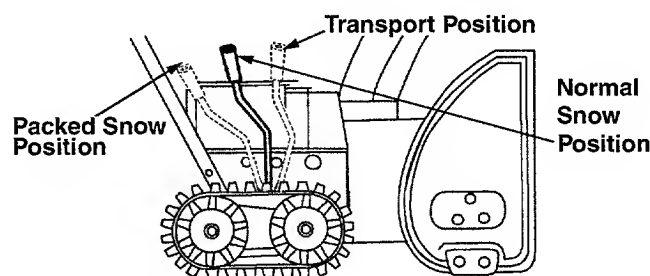

FIGURE 16
- To check the adjustment of the traction drive control and shift lever, move the weight transfer lever to the transport position (see figure 16) and the shift lever all the way forward to sixth (6) position.
The weight transfer lever is located on the right side of the snow thrower and is used to select the position of the housing and the method of track operation. Move the lever to the right, then forward or backward to one of the three positions. See figure 16.